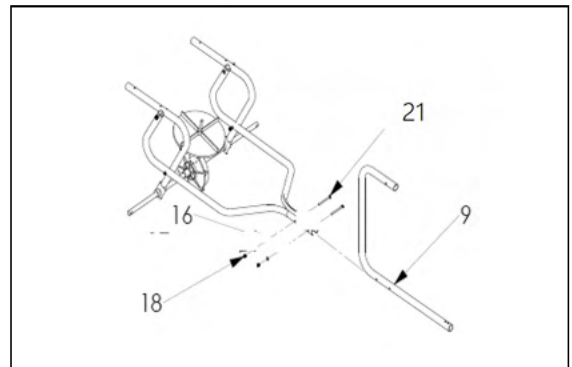

FIGURE 3
Attach front bracket (9) to right hopper support (6) and left hopper support (7) using screw M6x40 (21), small flat washer (16), and hex nut M6 (18). (Figure 3)